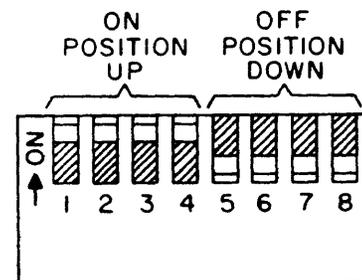

Fig. 3 - Examples of On and Off Positions for C.P. Chassis Switch S6 and M.C. Chassis Switches S2 and S3
8.05 S6 switches (see figure 3) are numbered from left to right, are ON in the up position, OFF in the down position, and accessible through the case opening with a small screwdriver shaft, or equivalent.
8.06 SIT code generation is governed by the instruction set in the EPROM. Details for selecting the SIT code which most closely matches the messages content are covered in the firmware publication (60-213405-XXX). Switch S6-6 must be in the ON position to enable the SIT circuits (see figure 3 for switch position).
8.07 The sampling frequency used for digital encoding and decoding of the voice messages is switchable, using switch S6-5 (part of DIP switch S6), located on the C.P. Chassis rear panel (see figure 3). Switch S6-5 selects a sampling frequency of 32 kHz in the OFF (down) position, a sampling frequency of 24 kHz in the ON (up) position.
8.09 The digital announcer can be set to accept either "pulsed start" or "level start" commands on the ST leads of the J2 and J2M interfaces, using the S6 DIP switch on the C.P. Chassis rear panel. Switch S6-7 (see figure 3) selects the desired mode per the following settings: